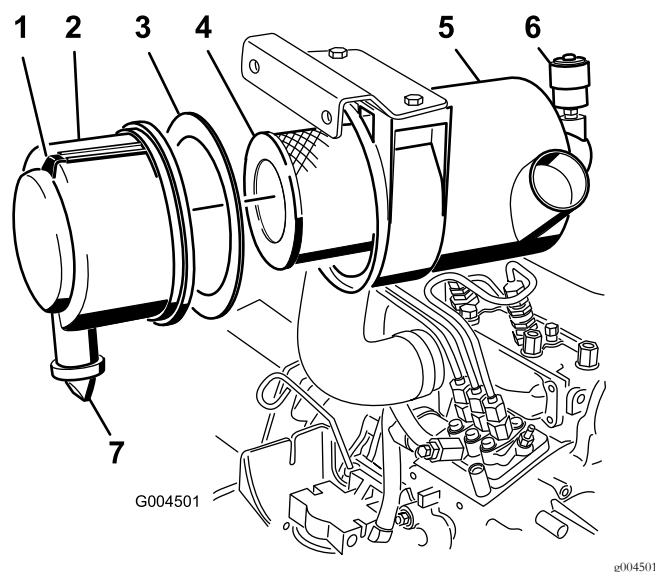

Figure 35
3. Service the air-cleaner filter when the air-cleaner indicator shows red or every 400 hours and service it more frequently in extremely dusty or dirty conditions (Figure 35).